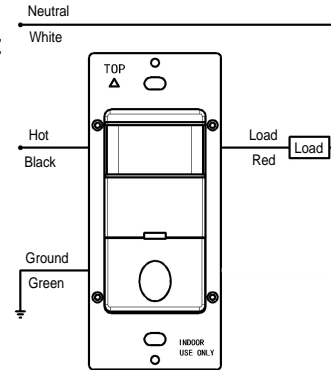

Figure 2
1. Connect lead wires as WIRING DIAGRAM (see Figure 2): Black lead to Line(Hot), Red lead to Load wire, Green lead to Ground.